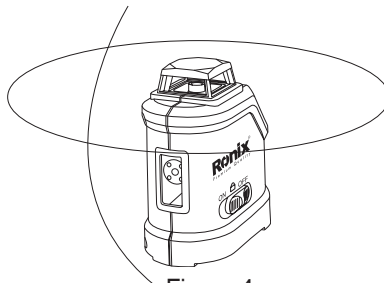

Figure 4
- 5- For graphic illustration please refer to (figure 4)